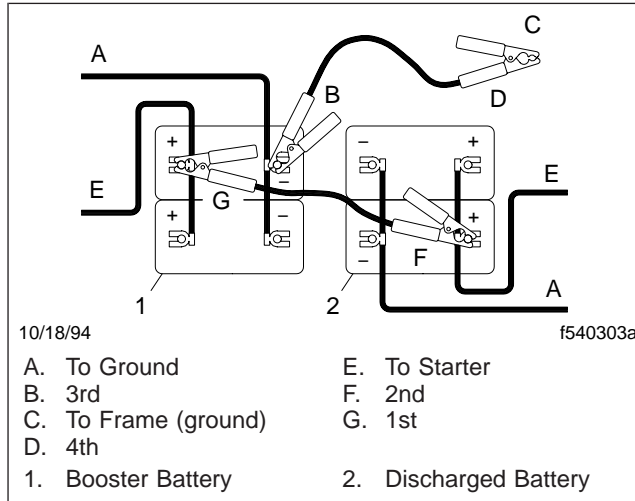

Fig. 11.2, Jumper Connections
2. Connect an end of one jumper cable to the positive terminal of the booster battery (or jump-start post if equipped), and connect the other end of the cable to the positive terminal of the discharged battery (or jump-start post if equipped). See Fig. 11.2.